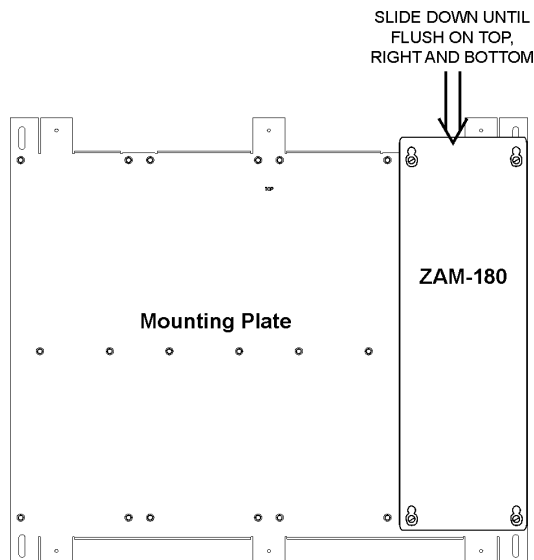

Figure 10
2. Place the ZAM-180 over the four screws on the Mounting Plate and slide it down or towards you to rest on the four screws. (Refer to Figure 10.) When the ZAM-180 is in the correct position it will be flush with the top, bottom and right side of the Mounting Plate.